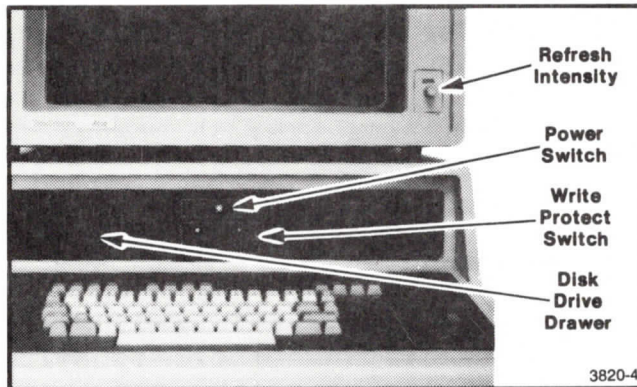

Figure 3-1. Front View Showing Operator Controls.
(Refer to Figure 3-1.)
To turn on the 4114, press the power switch (Figure 3-1) until it clicks. When you release it, you will notice a green indicator in the center of the switch.
1. If the terminal is on, skip to step two. If the terminal is off press the POWER switch, (Figure 3-1).	When you release the POWER button the green indicator appears in it. You can hear the ventilation fans in the terminal. If some of the indicator lights remain on and the terminal bell rings, it has failed the power up sequence. See the 4114 Operator's Manual for details.